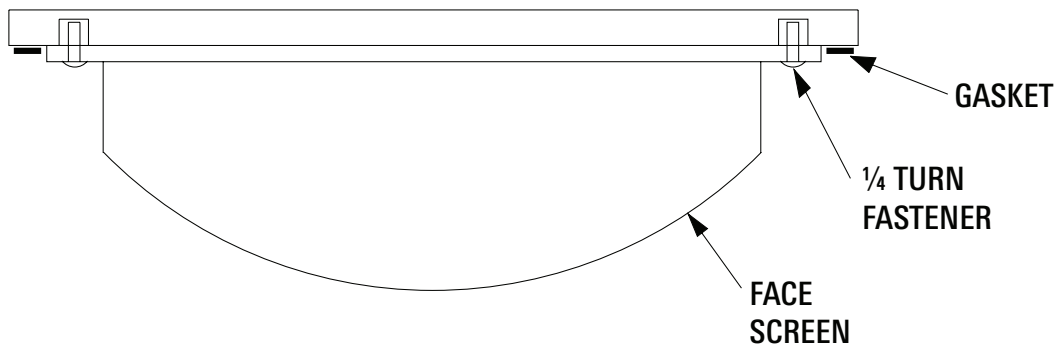
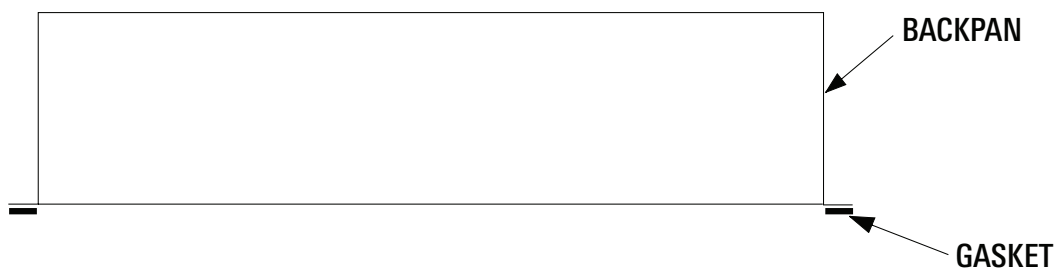

FIGURE 4
FIGURE 5
- A. Gasketing is a standard option for HEPA rack models. Figure 4 shows the general location of gasket, while Figure 5 shows a close up view of where the gasketing is often applied